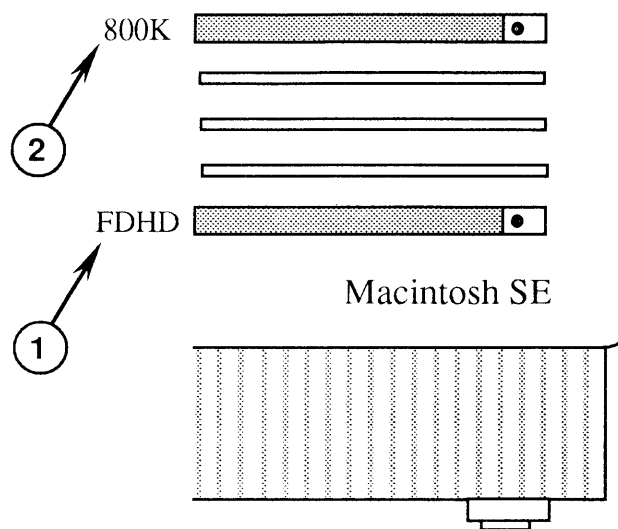

FIGURE 21
- Place the FDHD label in the groove next to the lower disk drive slot on the front bezel of the Macintosh SE as shown in Figure 21, #1. If an 800K drive is mounted above the FDHD drive, place the 800K label (Figure 21, #2) next to the upper disk drive slot on the front bezel.